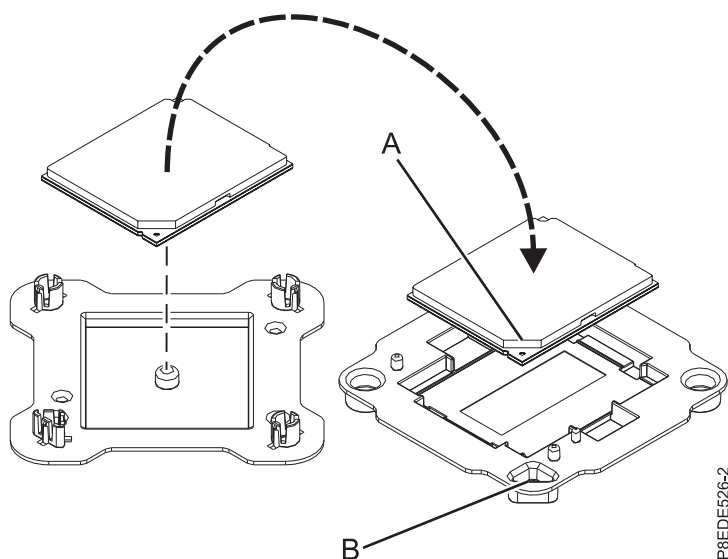

Figure 87. Placing the system processor module into the packaging
8. Lightly grip the system processor module that you replaced by the edges and lift it off of the packaging cover. Align the beveled corner of the module (A) to the corner of the packaging with
triangle (B) and place it in the packaging, as shown in Figure 87. Close the packaging cover.